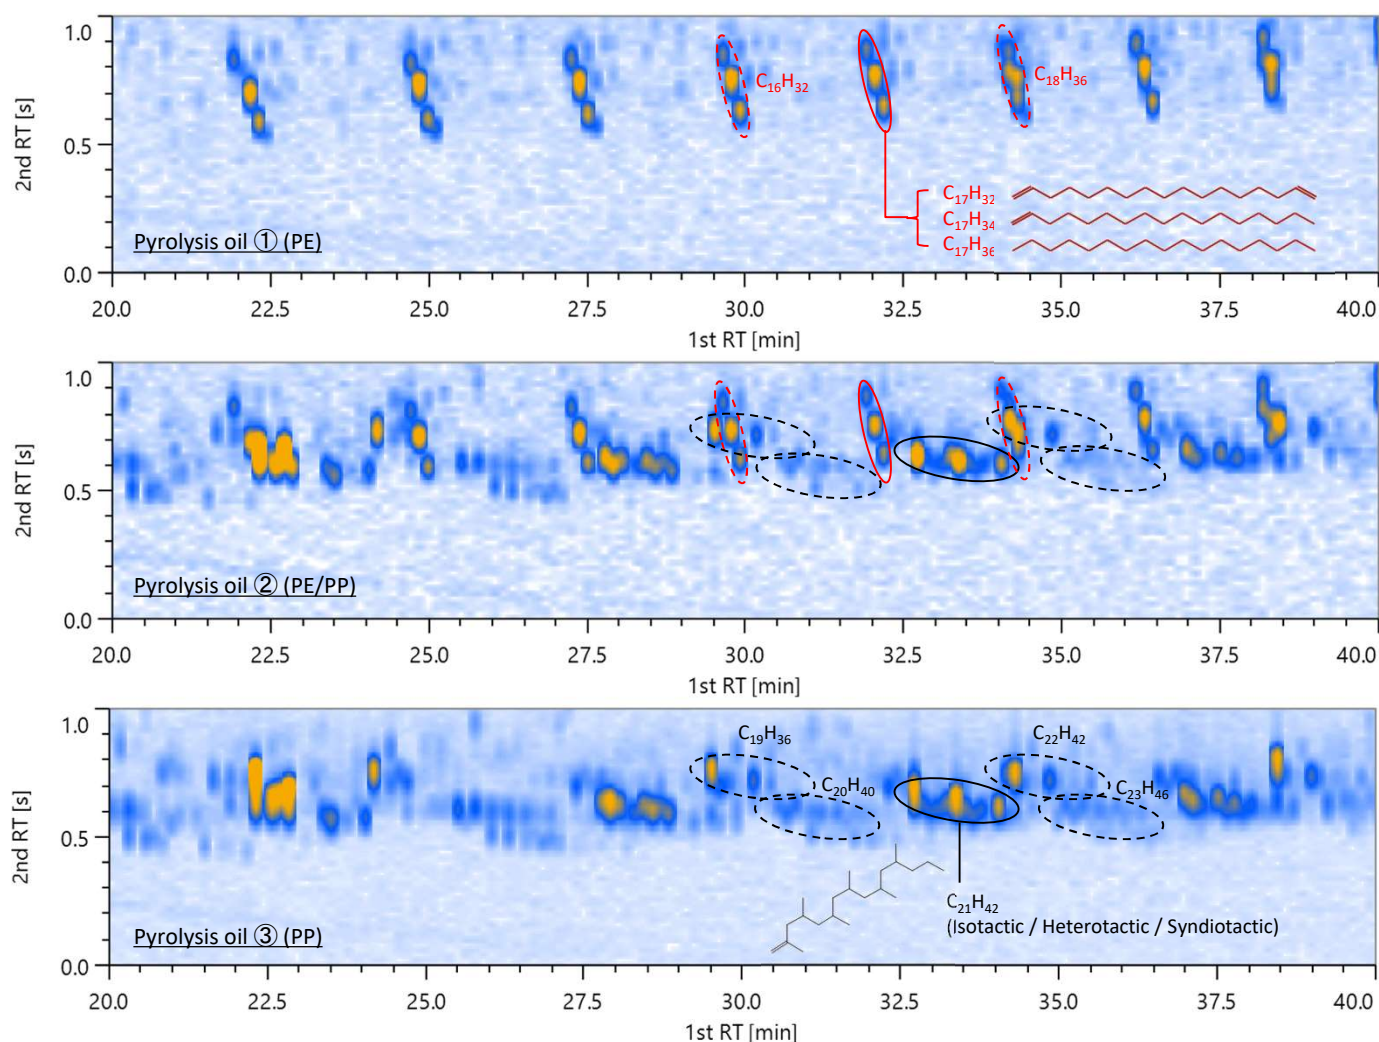

Figure 3 2D chromatograms of pyrolysis oil ①, ②, ③ (Enlarged view)
Figure 3 shows enlarged 2D chromatograms of pyrolysis oils ① (PE), ② (PE/PP), and ③ (PP). Although the pyrolysis oils used in this study contained up to three types of base polymers, more than 200 peaks were detected. The 2D chromatograms obtained by GCxGC-MS allowed for clear separation and detection of these numerous peaks, and the peak distribution made it easy to infer compound structures.